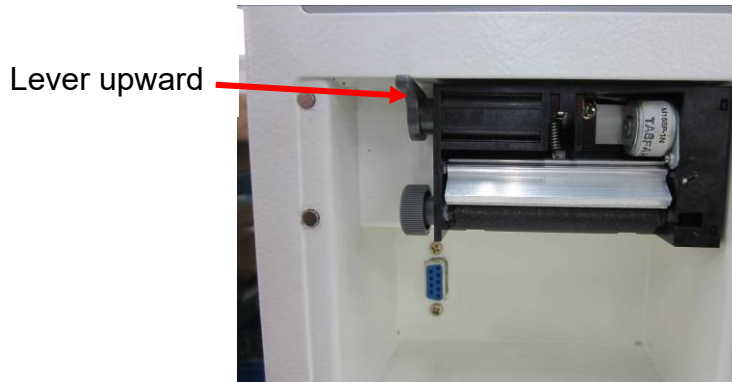

Figure 158
D. Position the lever in the “upward position” as shown in Figure 158.